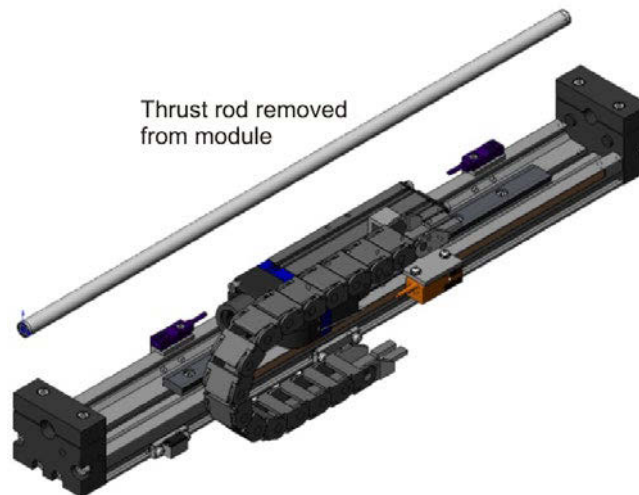

Figure 3.7
- Carefully slide the thrust rod out through the thrust rod supports and forcer (Figure 3.13) until it is clear of the module assembly, see Figure 3.7.